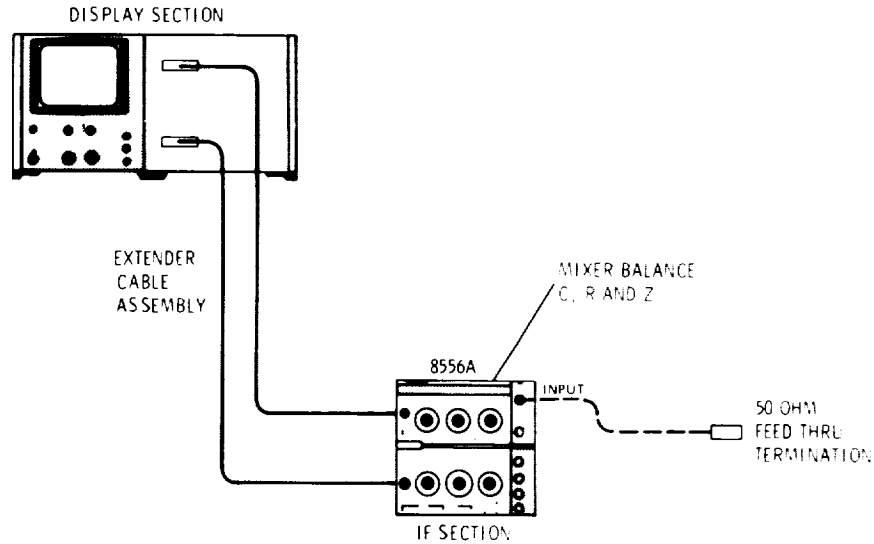

Figure 5-4. Mixer Balance Adjustments Test Setup
1. Extend LF and IF Sections on Extender Cable Assembly as shown in Figure 5-4. The A6 assembly should be mounted in chassis with all screws in place. Connect 50 Ohm Feed Thru Termination to analyzer INPUT.